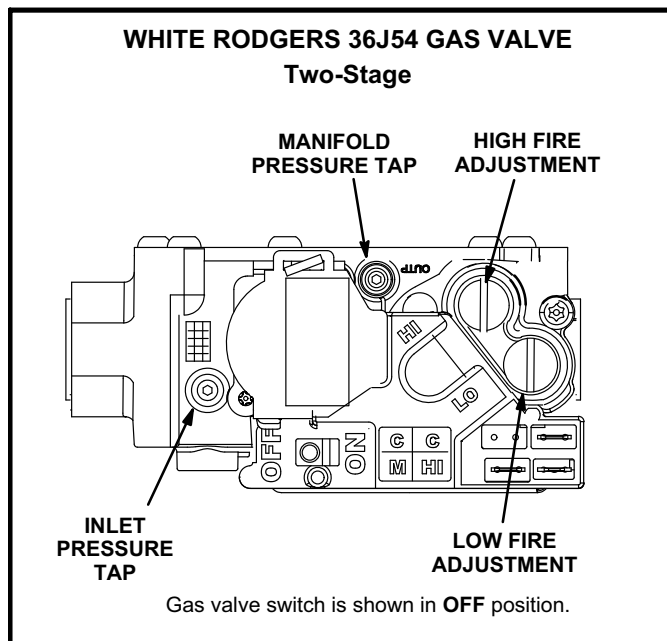

FIGURE 20
Gas Valve Operation (figure 20)
- 5- Move gas valve switch(es) to **OFF**. See figure 20.
- 6- Wait five (5) minutes to clear out any gas. If you then smell gas, **STOP!** Immediately call your gas supplier from a neighbor's phone. Follow the gas supplier's instructions. If you do not smell gas, go to the next step.
- 7- Move gas valve switch(es) to **ON**. See figure 20.
After line pressure has been checked and adjusted, check manifold pressure. Move test gauge to the outlet pressure tap located on unit gas valve GV1. See figure 20 for location of pressure tap on the gas valve.
The manifold pressure is factory set and should not require adjustment. See table 3. If manifold pressure is incorrect and no other source of improper manifold pressure can be found, the valve must be replaced. See figure 20 for location of gas valve (manifold pressure) adjustment screw.